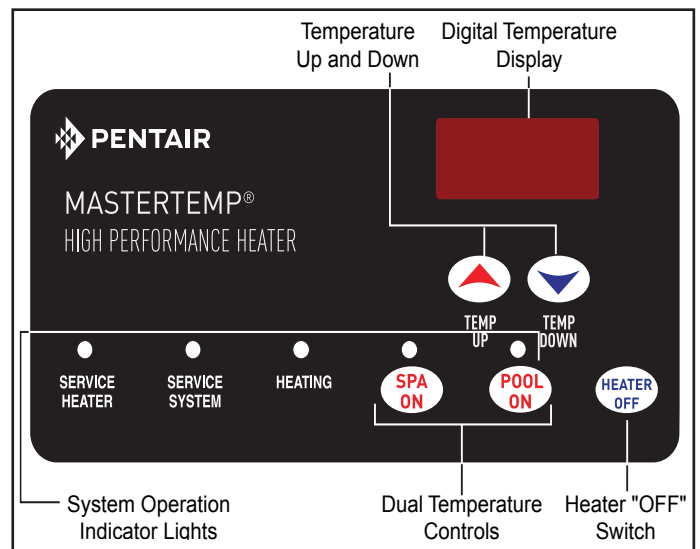

Figure 2.
- Set the thermostat to desired setting (**NOTICE:** Set point must be above actual water temperature or burner will not fire). See “OPERATING the CONTROL PANEL” (see Figure 2 and page ix).